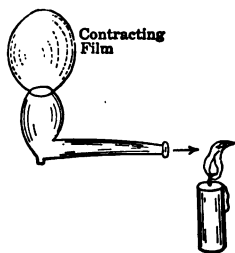

FIG. 82.— Film contracts and expels the air.
93. Surface Tension and Liquid Films. If we blow a soap bubble and then remove the pipe from the mouth, the bubble slowly contracts, forcing air out of the pipe-stem, Fig. 82. When we dip a wire ring containing a loop of thread, Fig. 83a, into a dish of soap-suds, a film is formed across the ring. If we break the film inside the loop with a hot wire, the unbroken film outside the loop contracts and pulls the thread into the form of a circle, Fig. 83b. These experiments show that *liquids behave as if a thin elastic film were stretched over their surfaces*. Since this film contracts to make the surface as small as possible, the force of contraction is often called the *surface tension of liquids*.